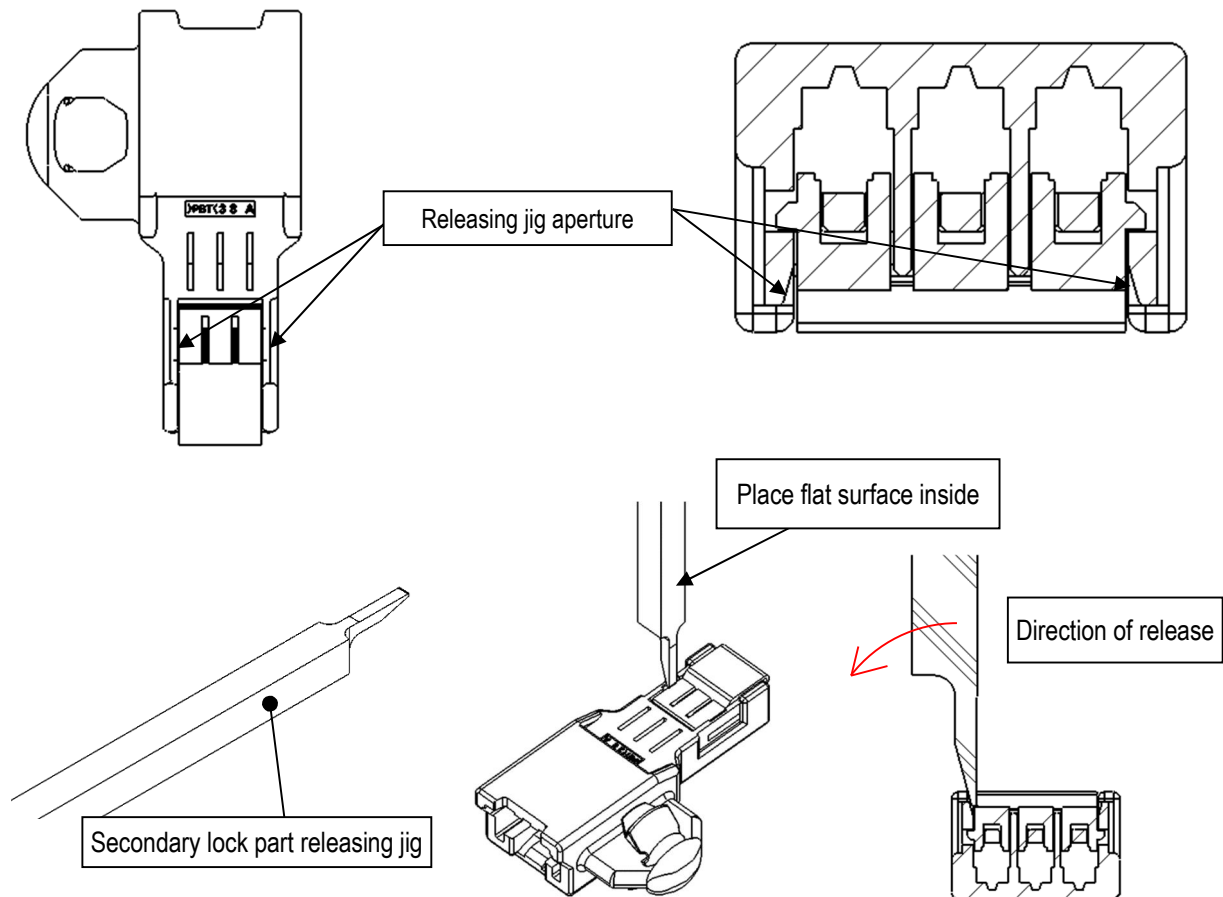

Fig 30. How to release the secondary lock part
- ① Initial position of the secondary lock part may be different. This does not affect the quality of the product.
- ① Place the releasing jig into the secondary lock part taper situated at the bottom of the housing, and move the jig to the direction shown in Fig. 30 to release the secondary lock part (release one side at a time).